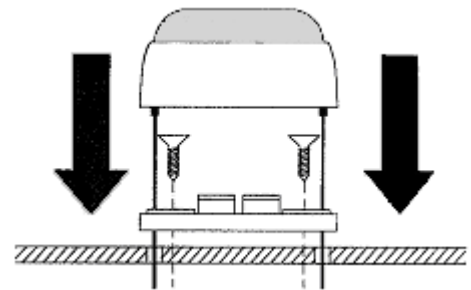

FIGURE 4
- 3) Mount the backplate with the two 1/2" flat head screws. See Figure 4 below.